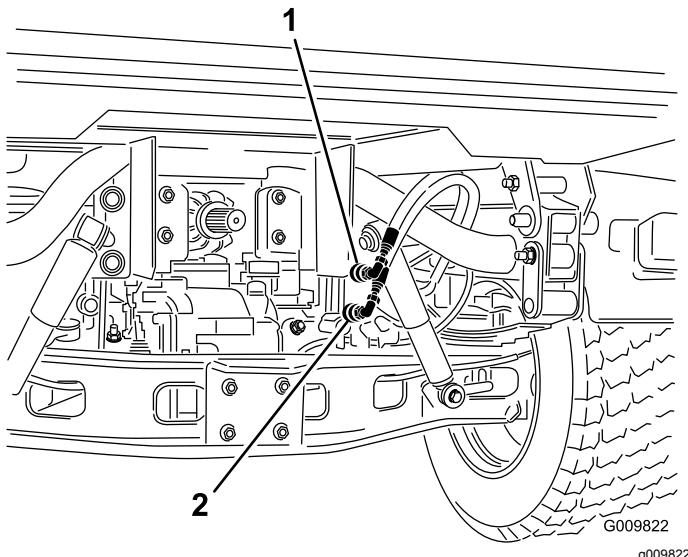

Figure 65
2. On both machine, disconnect the 2 quick-coupler hoses from the hoses secured to the coupler bracket (Figure 65).